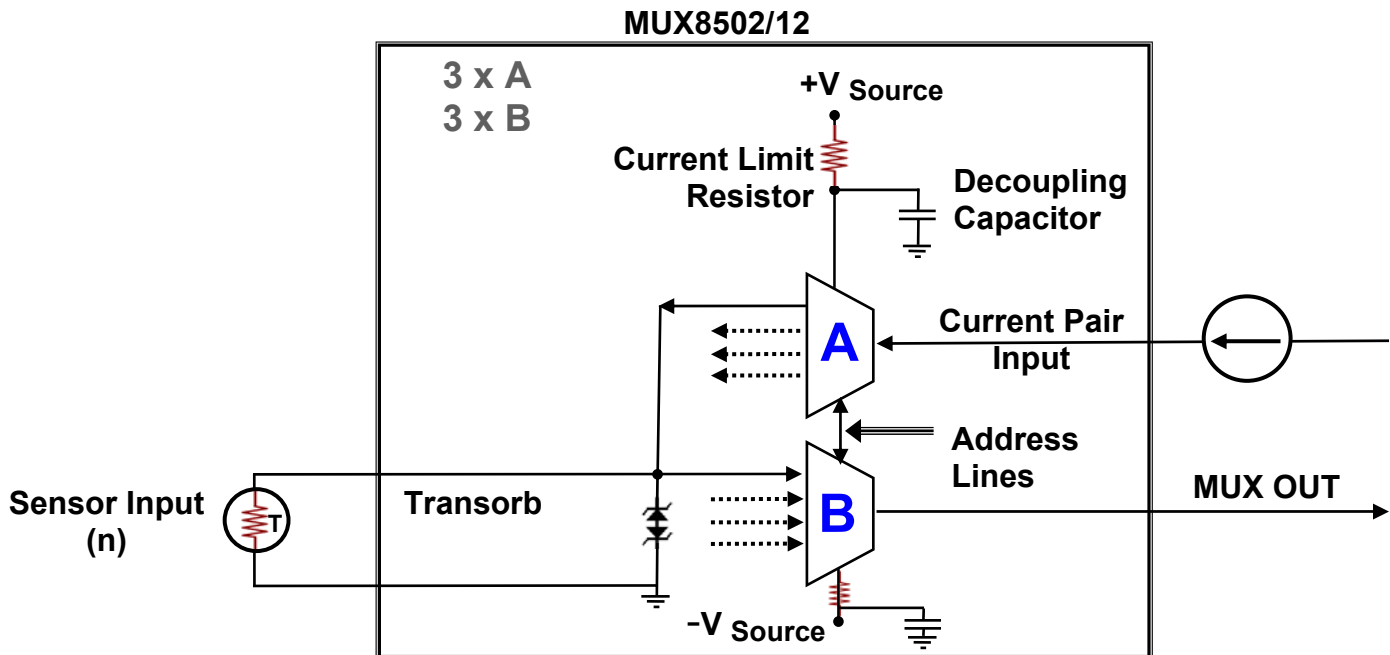

Figure 2
Aeroflex's MUX85xx series solves this space challenge with a reliable, well tested MIL-PRF-38534 Class K device. Within the MUX85xx series there are products specifically configured for sensor applications. Below in Figure 2 is an example of MUX8502/12, where:
- 16, 32, or 48 sensor input channels with each set of 16 paired with a second MUX for a current input. As shown in Figure 2